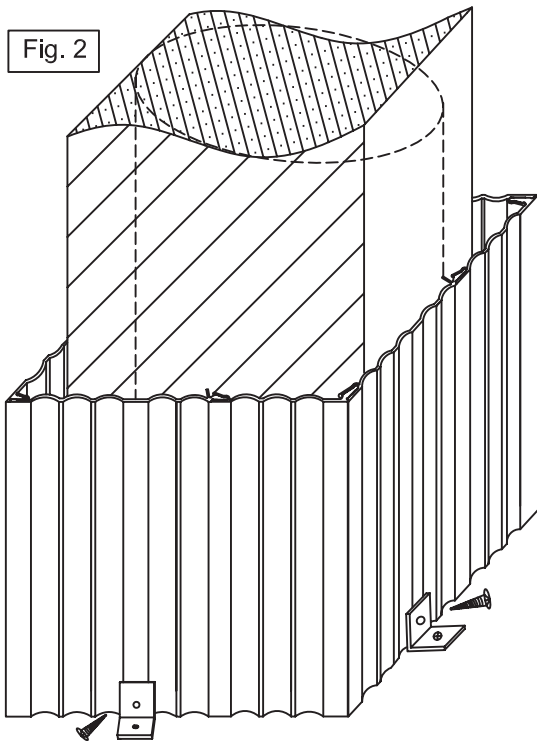

Fig. 2
Step 3. Locate L-shaped brackets around column at top and bottom and secure with screws (Fig. 2).